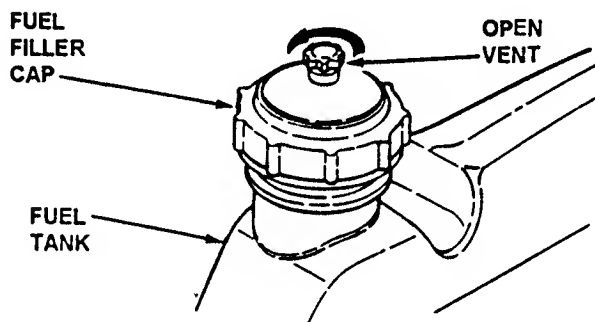

FIGURE 2.2
- 2.1.7. Add fuel to tank after pushing the Rear Engine Rider outside where fumes can dissipate. Make sure fuel filler cap is tight and vent is open after refueling. Refer to engine owner's manual. See Figure 2.2.